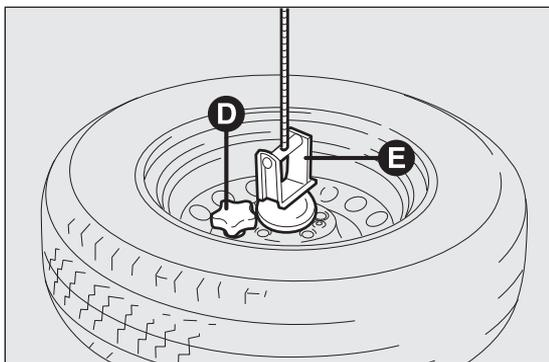

fig. 174
- unscrew the retaining knob D fig. 174 and release the wheel releasing the support E.
- take the removed wheel, re-attach to the mount E fig. 174 and tighten the knob D;